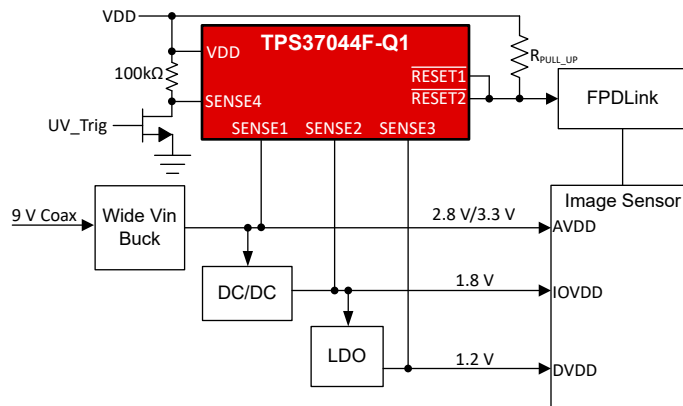

Figure 9-4. TPS37044F-Q1 Quad-Channel Monitoring with Manual Self-Test Option for Functional Safety
Figure 9-4 displays a self-test scheme where a manual self-test function can be implemented. Any SENSEx pin could be reserved and used to trigger a fault to be observed at the output, thus pre-checking the TPS3704x-Q1 for fault detection. Because the TPS3704x-Q1 is functional safety compliant, it helps elevate applications like the automotive ADAS camera achieve ISO 26262 requirements and automotive safety integrity levels. This example uses a device TPS37044F-Q1, configured for separate under-voltage / over-voltage (UV/OV) outputs where the SENSE4 thresholds are set at 5.5 V for OV and 2 V for UV.
Figure 9-4 shows a self-test scheme where a manual self-test function can be implemented. SENSE4 has an over-voltage (OV) threshold that is set at 5.5 V while the under-voltage (UV) threshold is set at 2 V. SENSE4 can be connected via a 100kΩ resistor to VDD. The self-test setup gives the added benefit of a built-in over-voltage detector for the rail powering the TPS37044F-Q1. From a functional safety perspective a voltage supervisor cannot be considered reliable if the supervisor is operating outside its recommended operated limits.